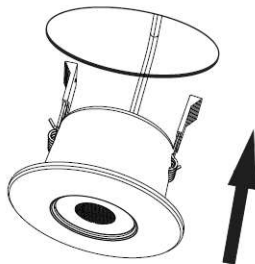

Fig. 5
- Lift both of the spring clips on the sides of the fitting and push into the ceiling (see Fig. 5)